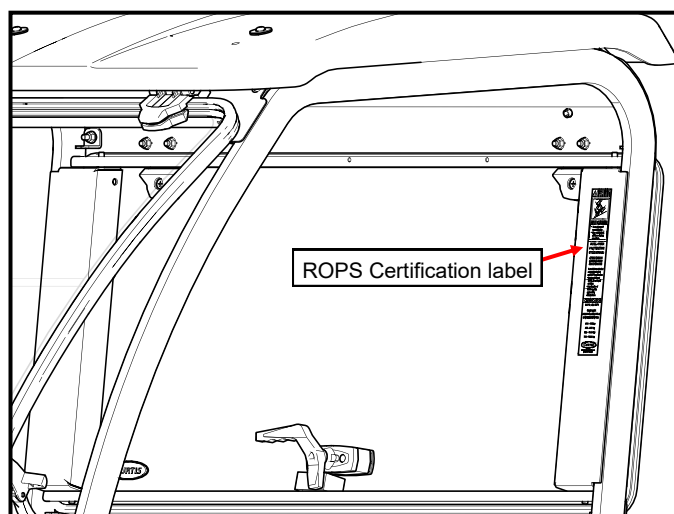

Figure 7.3: ROPS Certification Label
- 7.3 Apply ROPS Certification Label to the driver's side cab frame as shown (**Figure 7.3**).